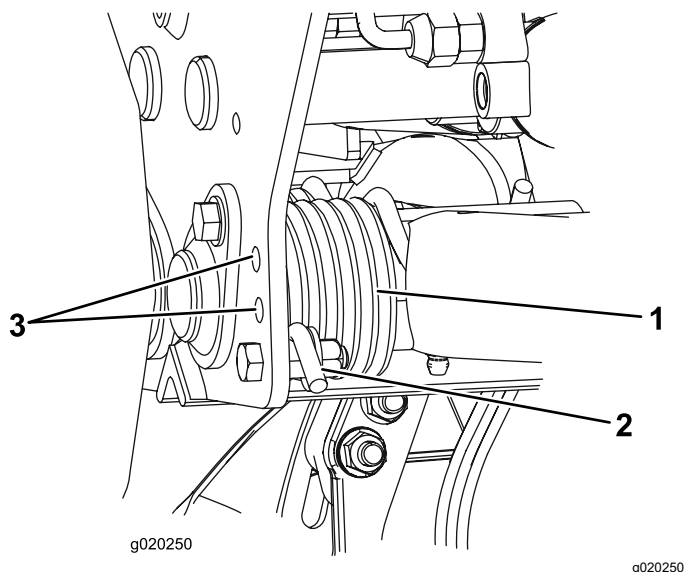

Figure 35
- Insert a tube or similar object onto the long spring end to relieve the spring tension during the adjustment (Figure 35).
- While relieving the spring tension, remove the bolt and locknut securing the spring actuator to the bracket (Figure 35).